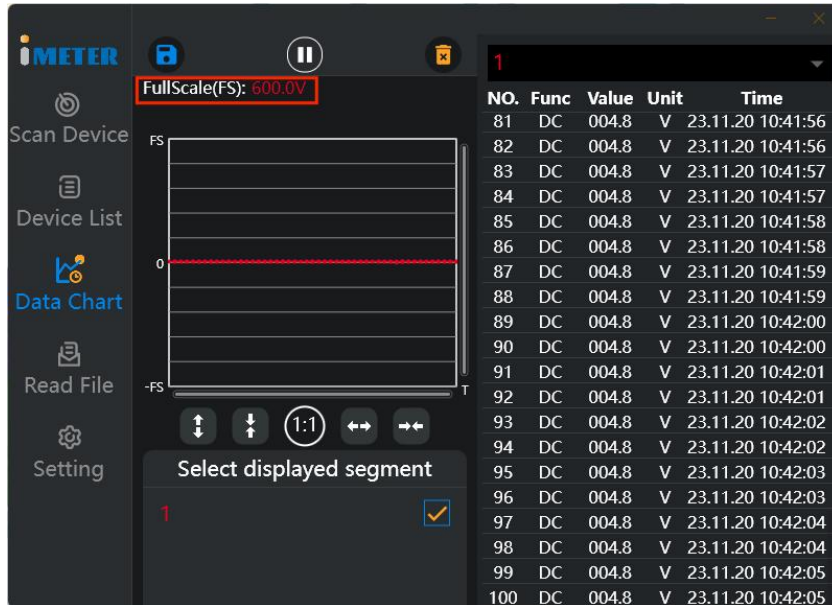

Figure 3
- Figure 3: The reading is 004.8V. Adding a decimal to the fourth digit of 6000 gives a full scale of 600.0V.